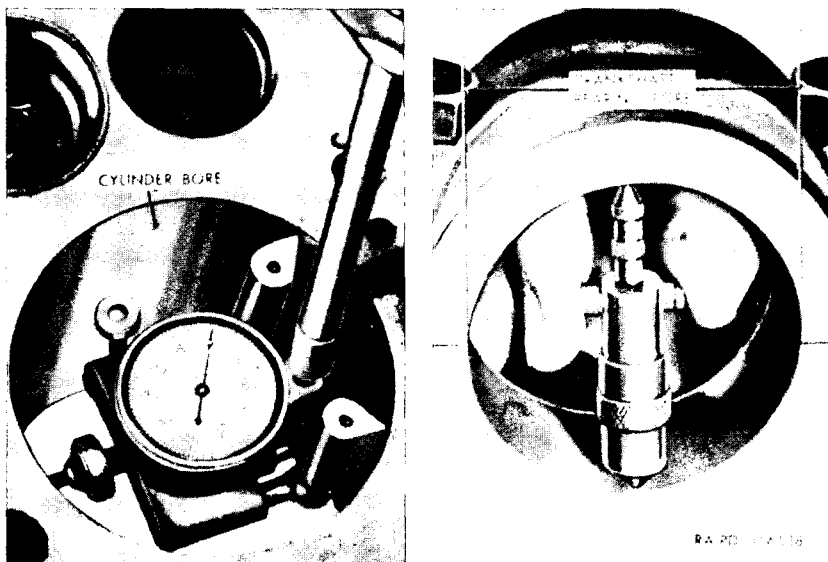

Figure 41. Checking cylinder bore using cylinder gage, dial type 41-G-122 and crankshaft bearing bore diameter using micrometer caliper set 41-C-304.
- (1) *Checking cylinder bores.* The cylinder bores should be checked for out-of-round and taper with cylinder gage dial type 41-G-122 (fig. 41). Check each cylinder bore at the top, bottom, crosswise, and lengthwise to determine if any
- (2) *Check crankshaft bearing bore diameter.* Install the main bearing caps and tighten the cap screws just enough to hold the caps snug. With a light composition hammer, tap each cap back and forth until the mating surface of the cylinder block and cap is exactly even. Then, tighten the cap screws to 80 to 85 pound-feet with a torque wrench and measure the diameter of the bearing bores with a micrometer caliper set 41-C-304 (fig. 41). If the diameter of a bearing bore is less than 2.6565 inch, replace the cylinder block as the bearing cap has been filed or excessively dressed down. Never dress down a bearing cap to reduce bearing clearance.